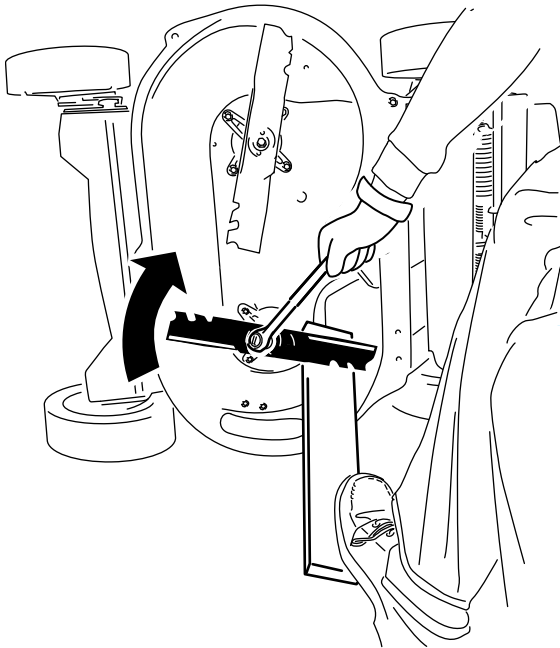

Figure 33
2. Steady each blade with a board and turn the blade bolt clockwise with a torque wrench as shown in Figure 33; torque each blade bolt to 82 N·m (60 ft-lb).